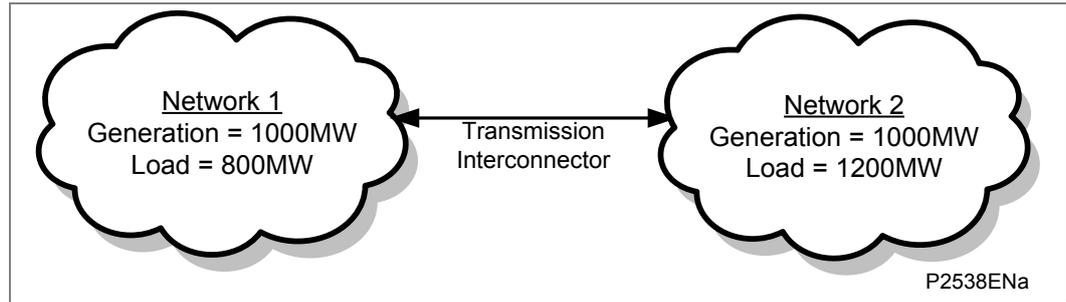

Figure 23 - Simple interconnected system to highlight frequency behavior calculations
In the simple network of Figure 23, it can be easily seen that Network 2 has a generation deficit of 200MW which is normally supplied from Network 1 through the transmission interconnector. In the event of loss of this interconnection, and assuming that the System Inertia Constant (H) of Network 2 is equal to 4, we can calculate that the rate of change of frequency at the time of the overload using Equation 1.